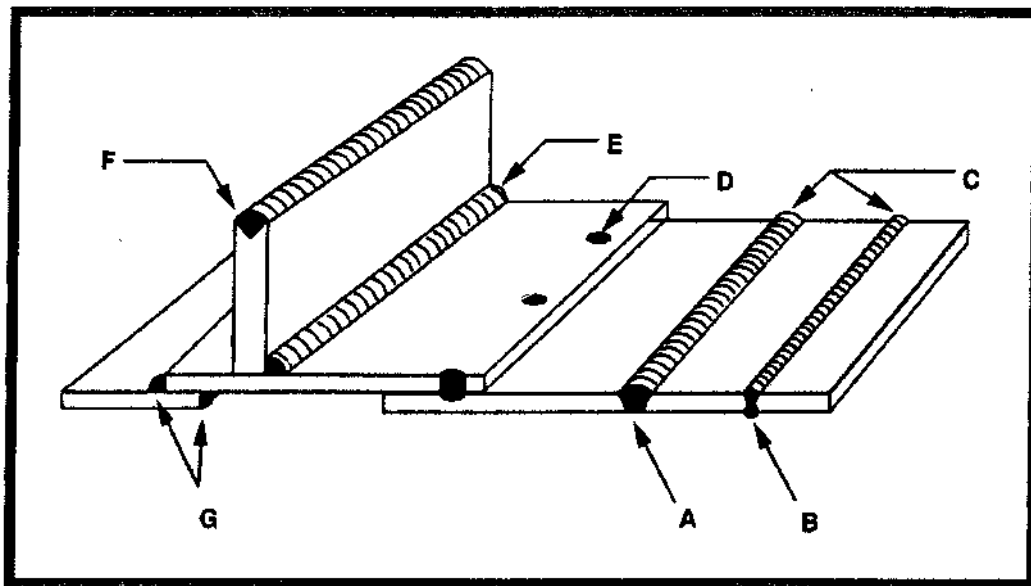

Fig. 9.24. Welds.
29. (Refer to figure 9.24) What type of weld is shown at A?
30. (Refer to figure 9.24) What type of weld is shown at B?
31. (Refer to figure 9.24) What type of weld is shown at G ?